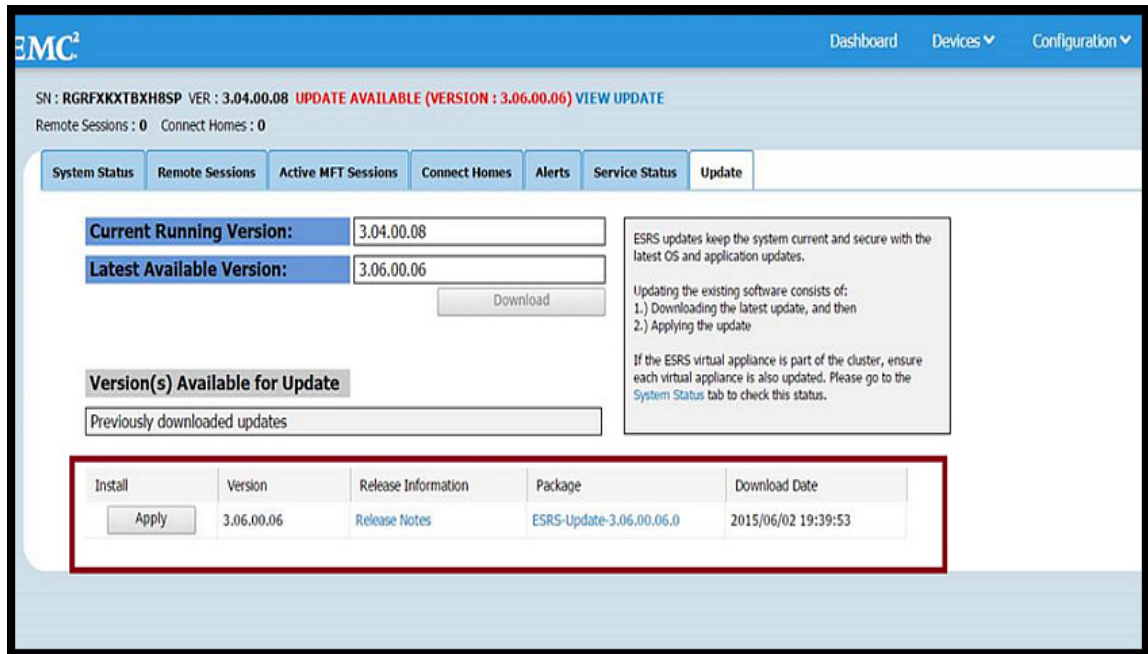

Figure 106 Clicking *Apply*
6. Click **Apply** to run and apply the patch for the upgrade, as shown in Figure 106 on page 82. Status pop-up window appears.